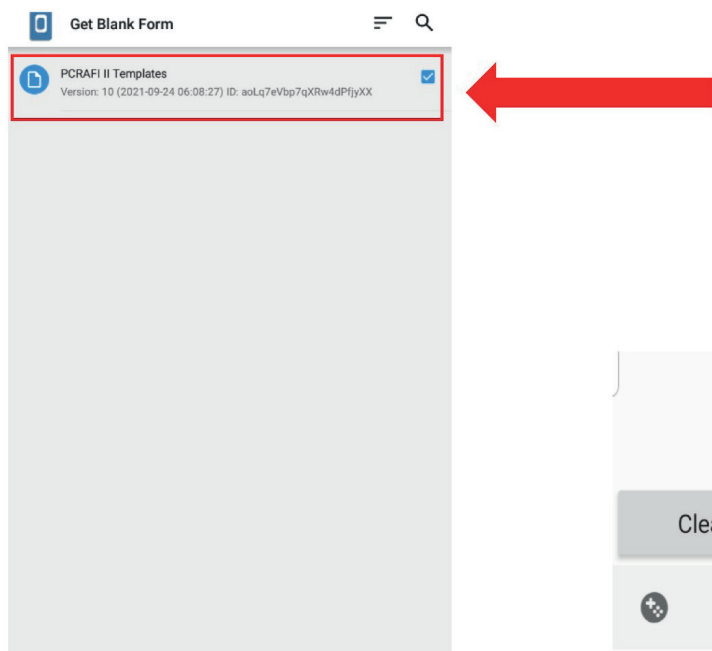

Figure 17: KoBoCollect Application - Get Blank Form
2. Click on “Get Blank Form” and the following interface will appear (Figure 17). The “PCRAFI II Templates” option should appear.